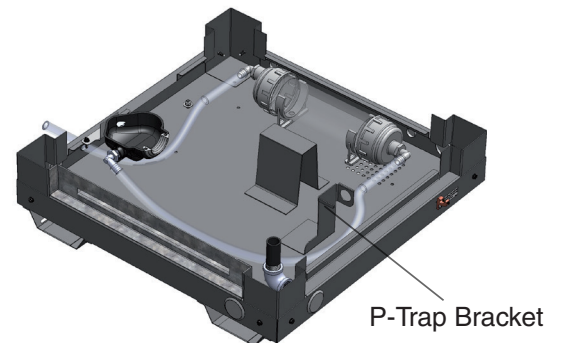

Figure 33. Internal Neutralizer Cartridge installed on base of heater for outdoor heater Installation
1. Remove the clear PVC tubing from P-Trap bracket to ensure proper drainage. **Note: The neutralizer cartridge itself is a P-Trap. Do not use indicated P-Trap bracket when using a neutralizer cartridge (see Figure 33 on next page). This will create an air trap and condensate will not flow properly.**
Outdoor Heater Installation (Figure 33, see next page): Using the provided brackets, secure the neutralizer cartridge onto the heater base.